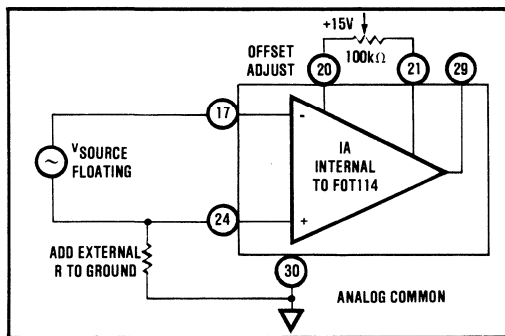
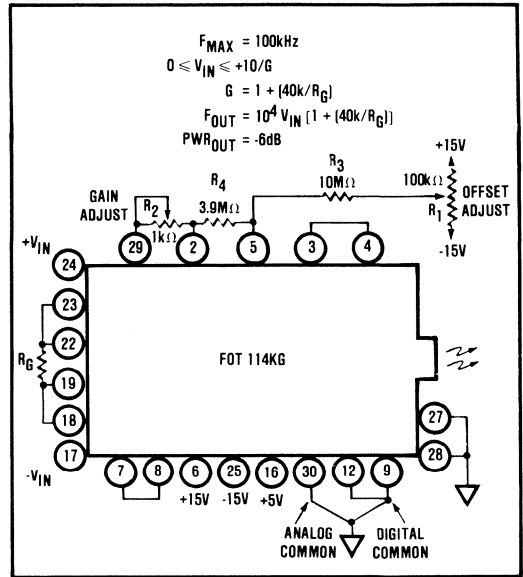

FIGURE 1. Instrumentation Amplifier with Offset Adjust and External Resistor for Floating Source.
FIGURE 3. Basic Circuit Connection for Gain and Offset Adjustment.
The instrumentation amplifier (IA) is composed of three compatible thin-film op amps and has the advantage of high impedance, superior CMR, high gain accuracy, and excellent drift performance. The gain is set by a single resistor (R_G) and is described by the equation $G = 1 + (40k/R_G)$. A low TC resistor should be used for R_G because it contributes directly to the gain drift. The Gain Sense lines on pins 18 and 23 are connected directly across R_G and eliminate gain error due to wiring. The Offset Trim pins 20 and 21 may be connected as shown in Figure 1. However, since this adjustment affects only the input stage component of offset, the null condition will be disturbed when the gain is changed. Additionally, the input drift will be affected by approximately $0.33\mu V/^\circ C$ per $100\mu V$ of input offset null. By performing the offset adjust on the VFC at pin 5, as shown in Figure 3, both of these effects can be avoided. Some resistance path to ground must be provided for the IA input bias currents (pins 17 and 24). For floating inputs, a $1M\Omega$ resistor can typically be used, but any value up to $50M\Omega$ is acceptable. This IA is similar to the Burr-Brown INA101AM.
Overall gain is defined in terms of frequency out divided by voltage in. The general transfer function of Figure 3 is:
Note the $40 \times 10^3 \Omega$ resistor may be paralleled with a $3.9M\Omega$ resistor (pins 2 and 5) as in Figure 3.
If gain and offset adjustments are necessary, they may be done either on the IA or the VFC; however, if different gains are selected, these adjustments are most easily made on the VFC. Figure 3 shows how to connect potentiometers for VFC gain and offset adjustment. The gain is adjusted by connecting a fixed resistor or potentiometer, R_2 , from pin 29 to pin 2. This is in series with the parallel combination of R_4 and the internal $40k\Omega$ resistor. R_2 then has an adjustment range of approximately $\pm 1\%$ which is ample to null the $\pm 0.5\%$ maximum gain error of the VFC. The offset is typically adjusted by injecting a small current into the VFC summing junction (VFC I_{IN}) by connecting a $10k\Omega$ to $100k\Omega$ potentiometer, R_1 , and $10M\Omega$ resistor to pin 5.